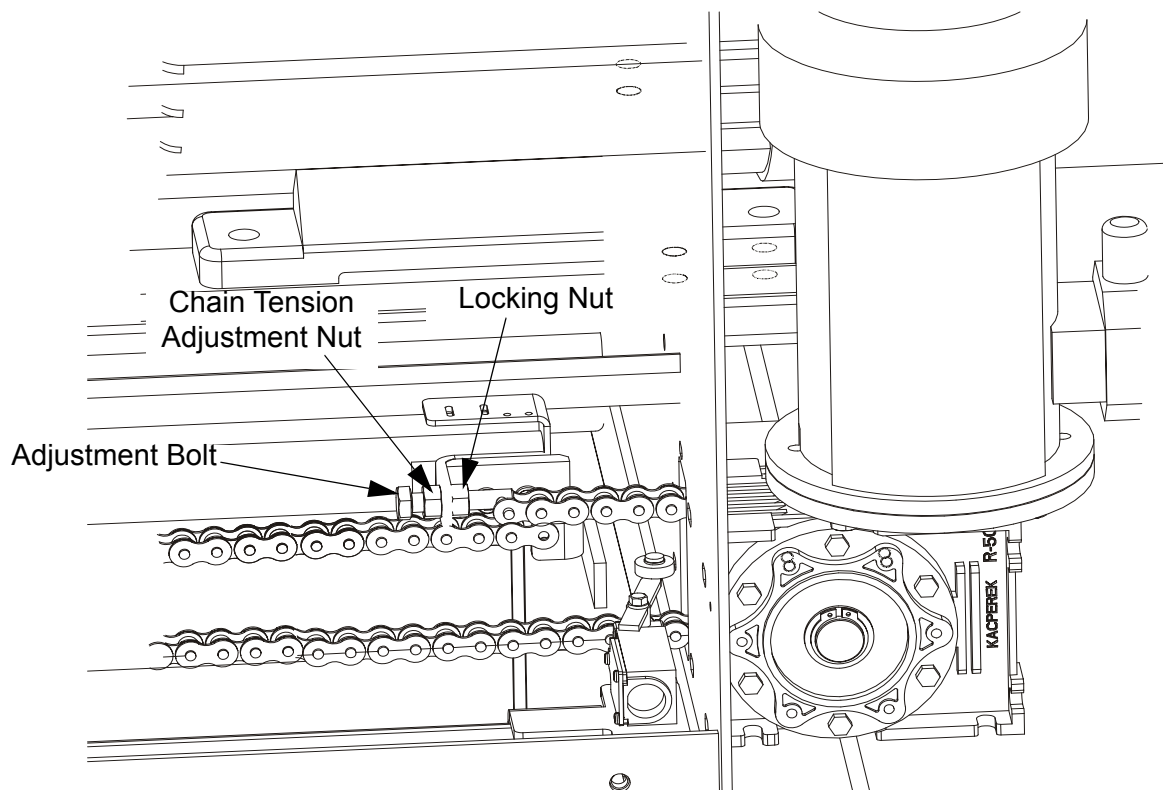

FIG. 5-4
**See Figure 5-4.** To tension the blade and laser positioning chains, unbolt and open the gearbox housing cover and lasers cover. Using the chain tensioner set the appropriate tension. Loosen the locking nut. Holding the adjustment bolt, turn the adjustment nut right to tighten the chain or turn the adjustment nut left to loosen the chain. After that, tighten the locking nut. The laser positioning chain tension is set in the same way.